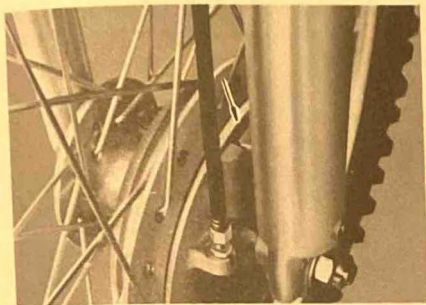

Fig. 21
6. a. Align the stopper (located in the bottom part of the front fork) with the shoe plate groove, and place the front wheel between the front forks. (Fig. 21)